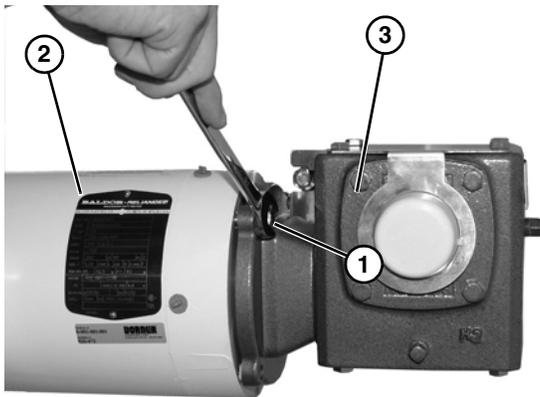

Figure 22
4. Remove four bolts (**Figure 22, item 1**) securing motor (**Figure 22, item 2**) to gear reducer (**Figure 22, item 3**).